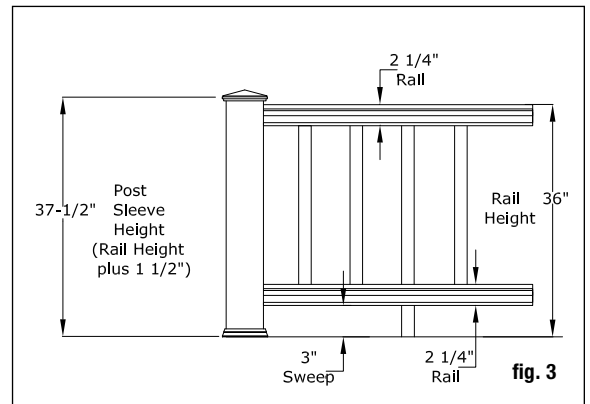

fig. 3
Step 5 Trim 4x4 post sleeves to length. If you plan to use a post cap, post sleeves should be a minimum of 1-1/2" longer than the railing height (fig. 3). Example: For a 36" high railing, trim post sleeve to a minimum of 37-1/2", or longer if desired; can be left longer if desired. Slide a trimmed post sleeve over each 4x4 railing post. Use shims as needed to create a snug fit. Slide a post base trim over each post sleeve.
Step 8 Assemble the lower inner rail and support block assembly. A support block is needed every 2' on-center. Check building codes for a maximum spacing between deck surface and bottom of rail (sweep). A 3" sweep is recommended, but can be more or less if codes allow (fig. 3). Trim support blocks to desired height and pre-drill 1/8" holes in the proper locations. Holes must be centered on the inner rail for support blocks to fit properly. Using the support block connectors, fasten support blocks to the underside of the inner rail.
Step 11 Determine the length of the balusters. Figure 3 illustrates how a 36" high railing might be sized. You'll need to account for a 3" sweep + 1-7/8" for the bottom railing + 2-1/8" inches for the top railing, a total of 7". So 36" - 7" = 29" baluster height. If these are the dimensions that you are going to use, cut the balusters to 29" length using a cut-off or miter saw. Use 35" balusters for 42" railings. If you want to have your railing at a different height, use figure 3 as a planning tool to determine the height to cut the post sleeves and the balusters. *Note: If you are using 32" glass balusters, your overall railing height will be 39". Use a fixture to ensure a consistent length (+/- 1/16").* Trim the balusters to the required length. Install balusters on each baluster connector. Gently tap the balusters with a rubber mallet to eliminate any gaps. Check for level end to end. *Tip: Wrap painters tape around the back side of both posts and place balusters against the tape. The tape will balance the balusters in place until the upper rails are installed. Remove tape when upper rail is in place.*
Step 9 Determine the length of the balusters. Figure 3 illustrates how a 36" high railing might be sized. Use figure 3 as a planning tool to determine the height to cut the post sleeves and the balusters. *Note: Use a fixture to ensure a consistent length (+/- 1/16").* Install balusters on each connector. Gently tap the balusters with a rubber mallet to eliminate any gaps. Check for level end to end. *Tip: Wrap painters tape around the back side of both posts and place balusters against the tape. The tape will balance the balusters in place until the upper rails are installed. Remove tape when upper rail is in place.*